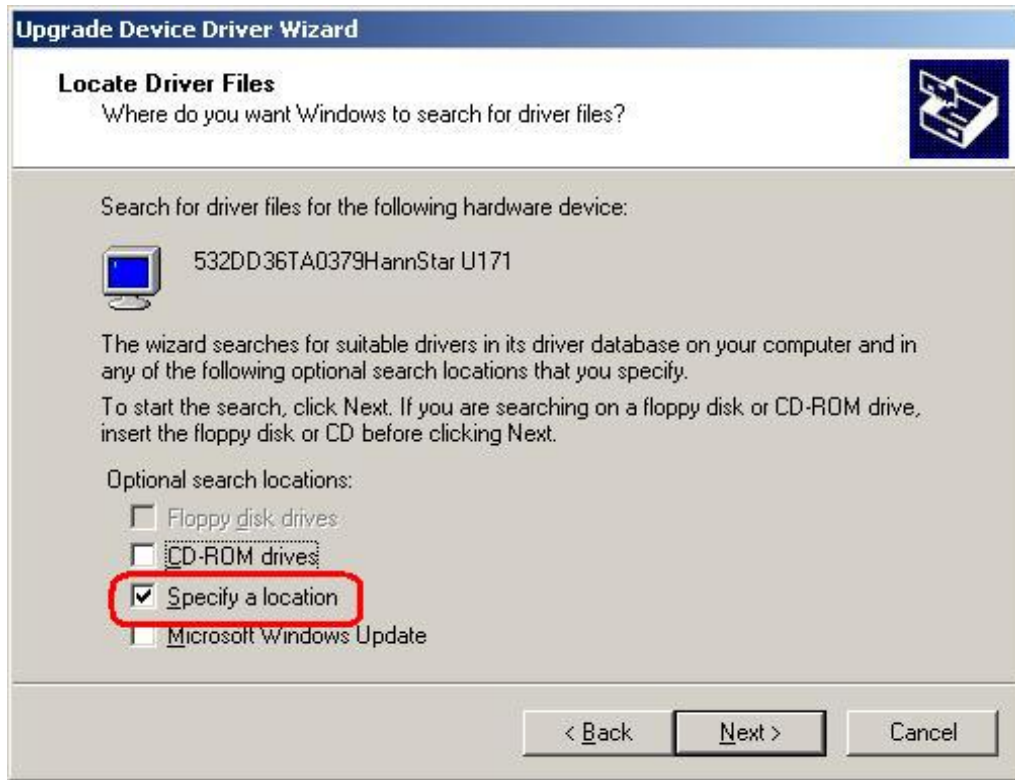

Figure 7-30: Locate Driver Files
Step 18: Select “Specify a Location” in the **Locate Driver Files** window (Figure 7-30).